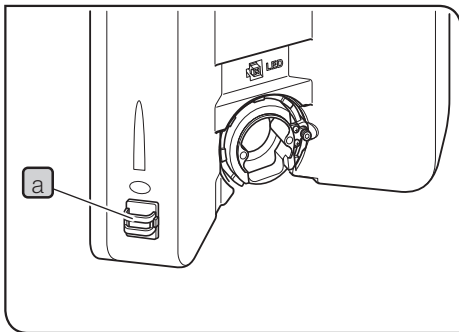

Fig.44
### 4 Attaching the halogen lamp socket (Fig.44 to 47)
Installing the U-LS30ADP LS30 adapter (Fig.44)
- 4 Pass the lamp cable through the cable holder (a). (Fig.44)